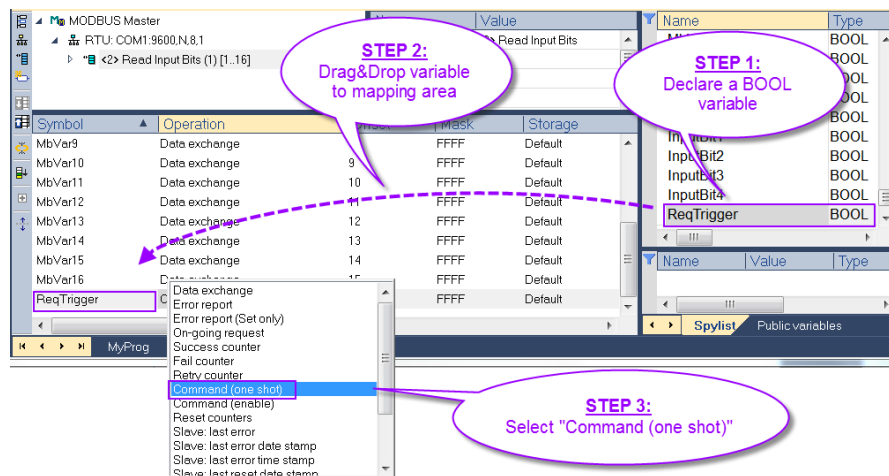

Figure 150: Create a 'On call' variable
- **On call:** The request is activated via a program call by using a variable. If the variable mapped to *'Command (one shot)'* operation turns from false to true a Modbus request is being triggered (Figure 150).
- A request will be sent once the attached flag (Figure 150: 'ReqTrigger') changes from FALSE to TRUE. Each time the PLC logic switches the flag to TRUE one Modbus command is being sent to the slave. After the request has been sent the flag will automatically be reset to zero by the runtime.